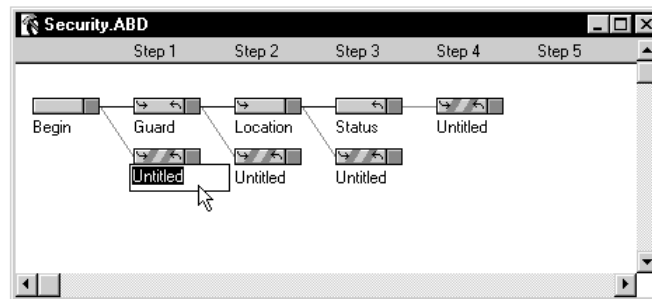

Figure 4-55 Edit Detour Handler Name
29. Click the Detour Handler name to edit the name (Figure 4-55).